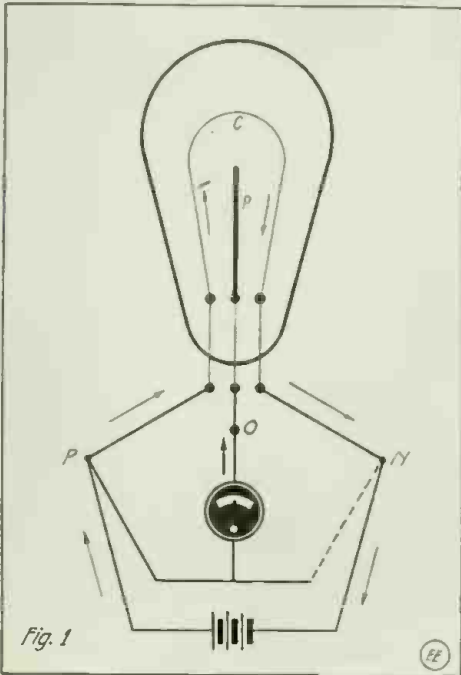
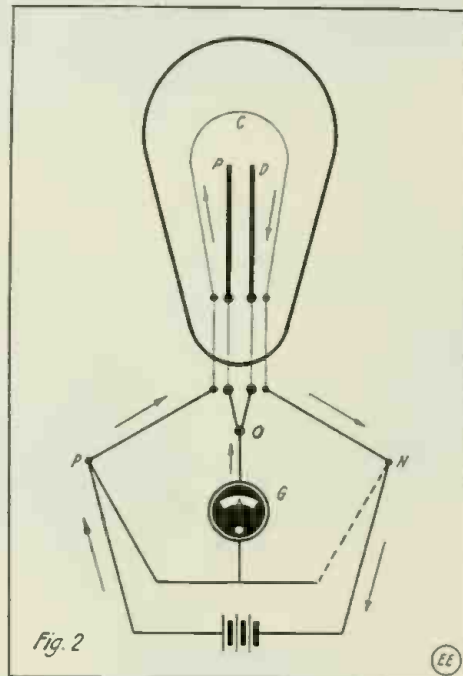

Fig. 1
Fig. 2
Referring to Fig. 1, a platinum strip or plate (P) will be seen supported between the two branches of the usual looped filament. The posts P and N are connected to the ends of the carbon loop, and O to one end of the platinum plate; P is the positive and N the negative terminal of the electric source. The lamp is placed in the circuit of an electrical source or battery; the current will then flow as per arrows. The galvanometer G, has one of its terminals connected with the positive terminal P and the other with the platinum plate.
In Fig. 2, we have another lamp whose parts are the same as in Fig. 1 only two platinum strips, PD, placed parallel to each other are incorporated. Prof. Edwin J. Houston at that time said that if a current is produced when terminals, O, are connected to the galvanometer, then the phenomena is still more difficult of explanation, but he believed that one pole of the electrical source or power is always connected with the galvanometer, the other being connected with either or both of the platinum plates; such being the case the phenomena would simply be a modification of the action in bulb shown in Fig. 1.
A Similar "Edison Valve" to Fig. 1, Excepting That Two Auxiliary Platinum Plates Are Used. Galvanometer Deflections Were Also Obtained With This Arrangement.
We will take up in this paper several types of tuning inductances used in radio transmitting circuits, and which have been adopted in actual practise. Fig. 1 shows what is known as the "pan-cake" or spiral inductance. This is a very effective form, particularly when wound of flat copper ribbon. It is sometimes built of heavy round wire, but the flat ribbon of course gives the most efficient results. Spring clips are provided with practically all inductance coils of these types, so that any part thereof may be included in the circuits to which they are connected.
The inductance illustrated in Fig. 2, comprises what is known as an *auto-transformer*. In this case a single winding serves as both primary and secondary. The primary circuit being connected across at P, and the secondary circuit connected across the clips at S or S1, etc. It is possible to vary the coupling between the primary and secondary circuits to some extent with such a transformer, by connecting one of the circuits to the position S1 (i.e., widely separated), for instance, as related to the second circuit at P.
The dotted lines running axially in diagrams here shown indicate the magnetic field set up when current passes thru the coil, and the action of the auto-transformer becomes evident from Fig. 2, as it will be seen that all of the turns in the coil are threaded or cut by magnetic flux created in it. Thus it is possible to increase the potential of a circuit with a single winding as shown. When potentials are to be increased by auto-transformers, the ratio between primary and secondary voltages is usually not greater than 3 to 1 or 8 to 1.